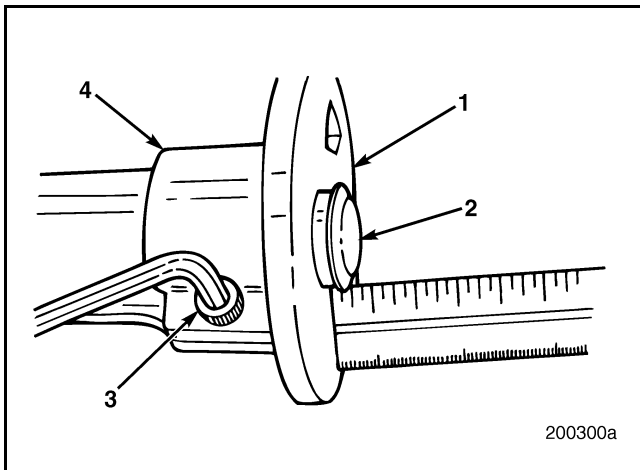

Figure 194 — Setting Depth of Grinder
- Install grinding wheel (2) into the grinder (4) and set depth of the grinder base (1) to the dimension found in the preceding step. Refer to Figure 194.
- Secure the base to grinder by tightening the hex-head screw (3).